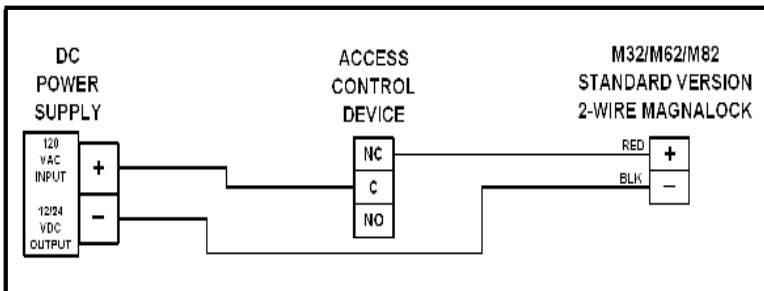
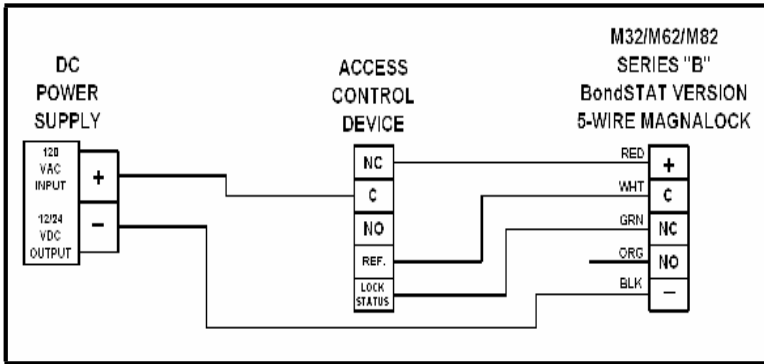
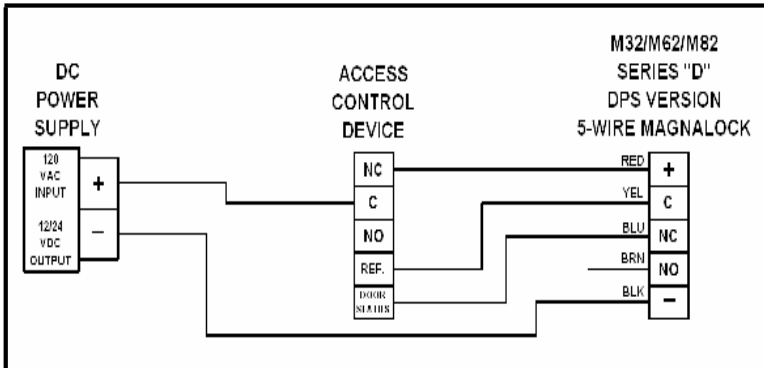
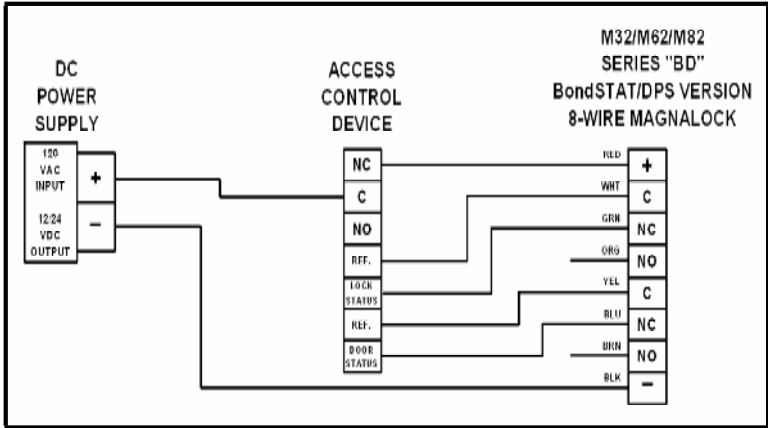

Figure 20. Typical Magnalock Wiring
Figure 21. Connections for BondSTAT "B" Version
Figure 22. Connections for DPS "D" Version
Figure 23. Connections for “BD” Version
6. CONNECT the wiring per Figure 20, "Typical Magnalock Wiring," Figure 21, "Connections for BondSTAT 'B' Version," Figure 22, "Connections for DPS 'D' Version," and Figure 23, "Connections for 'BD' Version."
NOTE 1: In Figure 21, the green and white wires supply electrical connection when the lock is ON and secure.
NOTE 2: In Figure 21, the orange and white wires supply electrical connection when the lock is OFF or unsecure.
NOTE 1: In Figure 22, the blue and yellow wires supply electrical connection when the door condition is closed.
NOTE 2: In Figure 22, the brown and yellow wires supply electrical connection when the door condition is open.